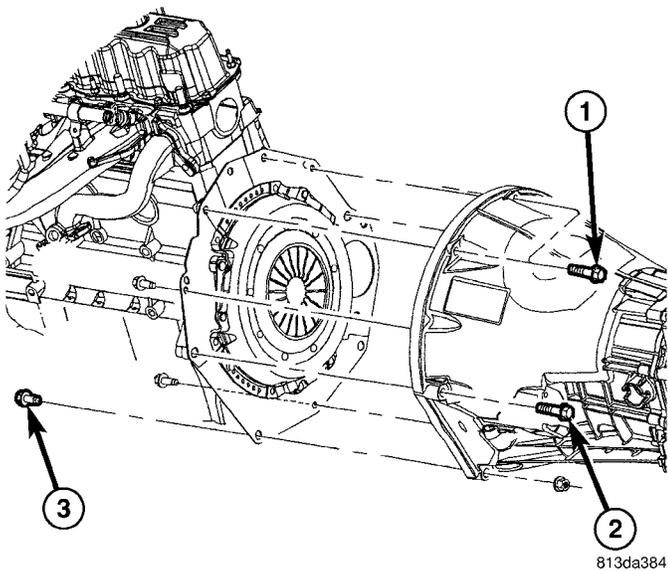

Fig. 119 4.0L ENGINE
(3) On 4.0L engine tighten bolts (1) to 37 N·m (27 ft. lbs.). Install side and lower dust shield and tighten bolts (2) (3) to 58 N·m (43 ft. lbs.) (Fig. 119).